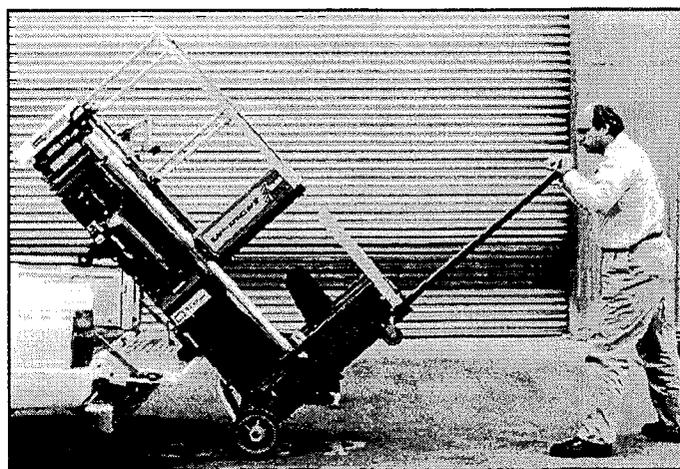

Figure 3-11: Tilting machine onto vehicle
5. Lift upward on the T-handle using the loader as a pivot until the unit rotates to a horizontal position in the vehicle bed, Figure 3-11.